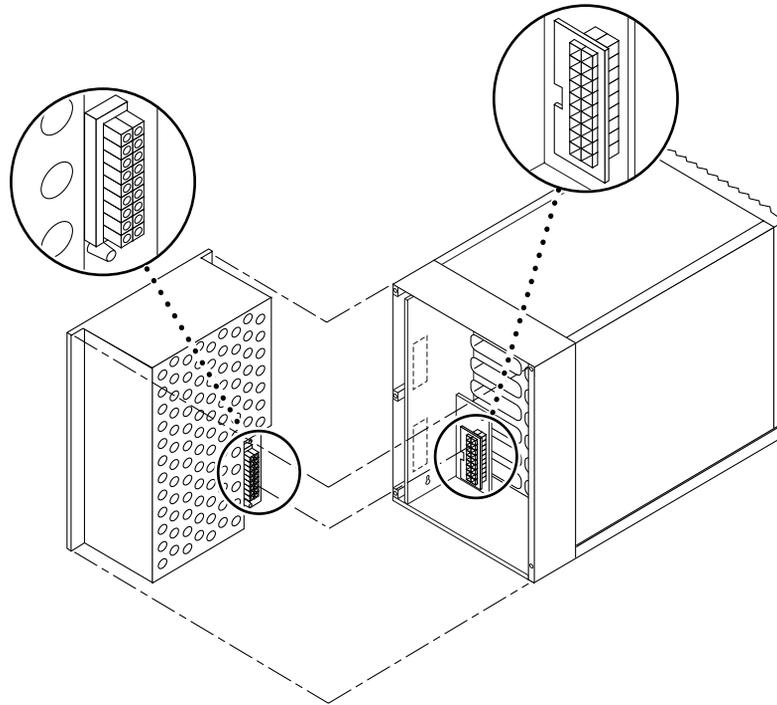

FIGURE 2-6 Lining Up the Power Supply Connector Pins
- 7. Carefully pull the power supply out from the unit using the pull strap and set it aside (FIGURE 2-6).**
The connector at the back of the power supply connects to the backplane (FIGURE 2-6). Because of this connection, the power supply will not slide out of the unit easily. Slowly work the power supply loose from the connector as you remove it from the enclosure.
- 1. Align the power supply at the back of the unit so that the connector plug on the power supply lines up with the connector on the backplane (FIGURE 2-6).**